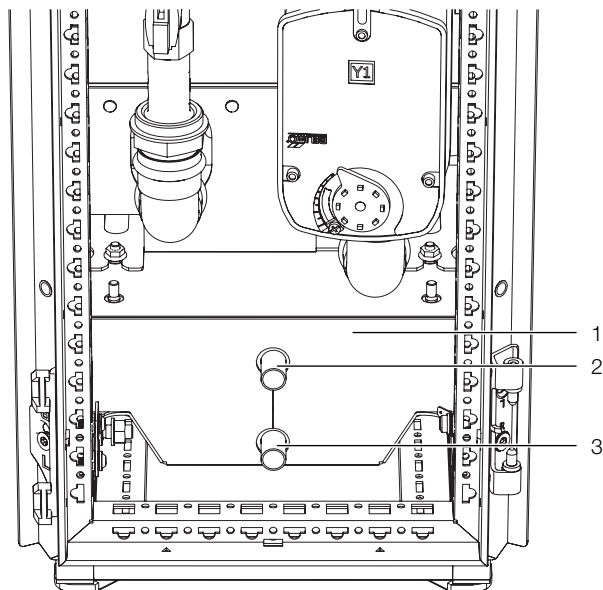

Fig. 85: Condensate discharge
Any condensate which may develop is collected in the base tray (fig. 85, item 1) in the water module of the Liquid Cooling Package.
The Liquid Cooling Package is additionally equipped with a condensate discharge (fig. 85, item 3 or item 2) via which the condensate is pressurelessly routed out of the Liquid Cooling Package.